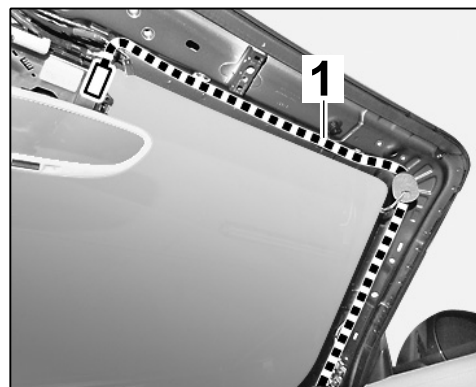

Figure 5
- 2.3.1 Route GPS antenna line ⇒ *Figure 5*